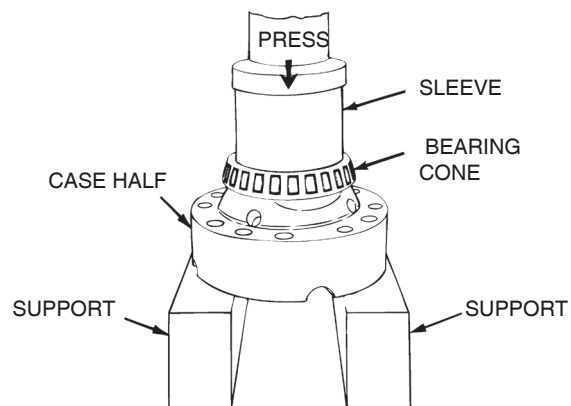

Figure 5.21
- Use a press and the correct size sleeve to install the bearing cones in the both of the case halves. Figure 5.21.